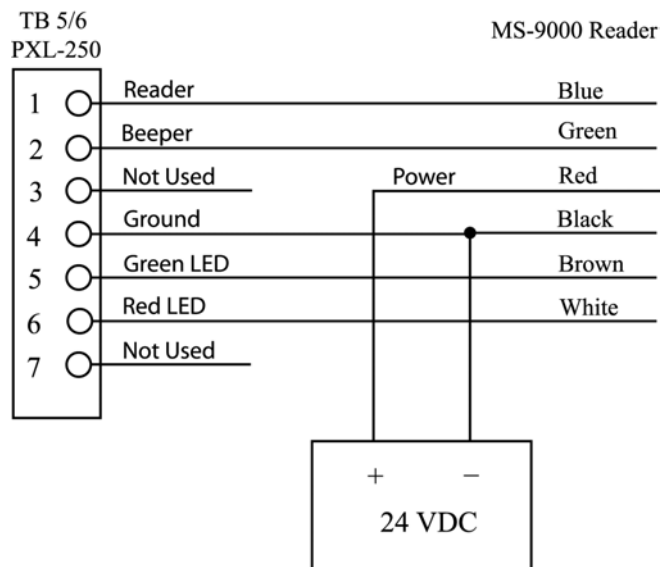

Figure 5: PXL-250 Connection to 24 VDC Power
- TB2, pin 2 on the PXL-250 (see Figure 5)